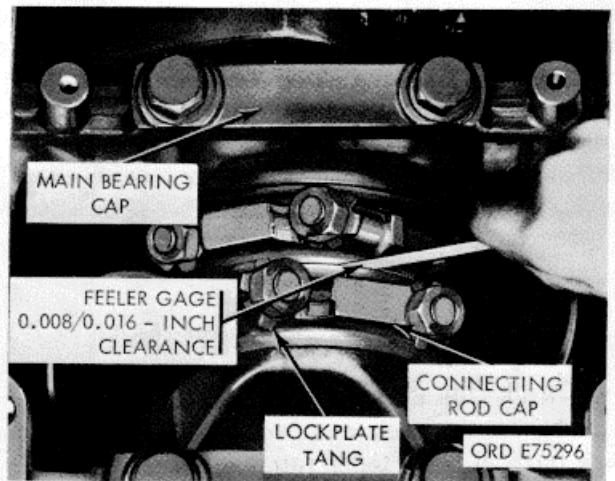

Figure 3-13. Rod side clearance check.
(1) Use hand pressure to move rod side-ways. Tap lightly with soft hammer if necessary.
(2) If rod is not free, loosen cap and check for dirt or burrs. Secure cap as described above.
(3) Push rods apart. Check for 0.008 to 0.016 inch clearance between rods with feeler gage (fig. 3-13).
o. Bend tangs on lockplates (fig. 3-13), to locknuts.